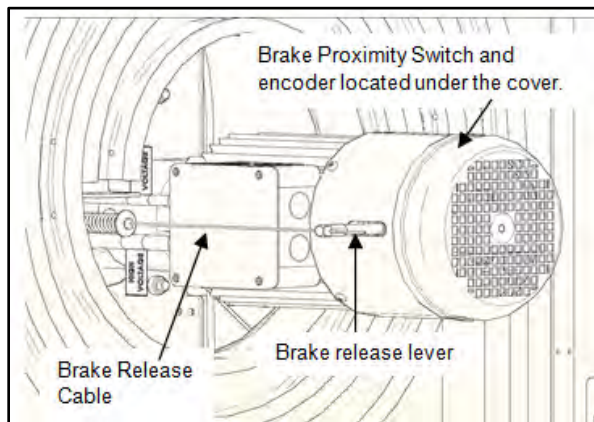
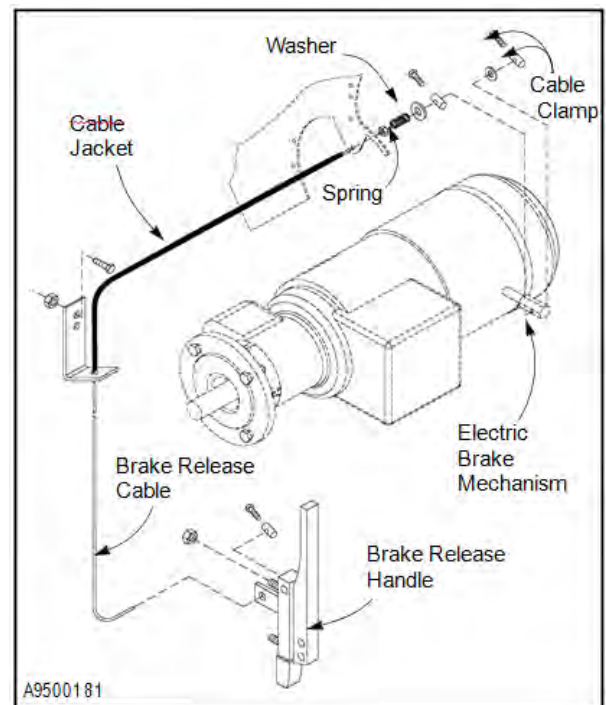

Figure 50
Figure 52
3. Disconnect the old brake release cable from the electric brake mechanism by removing the cable clamps, washers, and spring. Save all hardware. (See Figure 50 and Figure 52.)
4. Remove and save the cable clamp at the handle end of the cable. Pull the old cable out of the head assembly and side column. Then discard the old cable. (See Figure 50.)
5. Install the new brake release cable, taking the same path as the old cable. Be sure to feed the cable through the cable jacket that runs between the side column and the motor gearbox. (See Figure 52.)